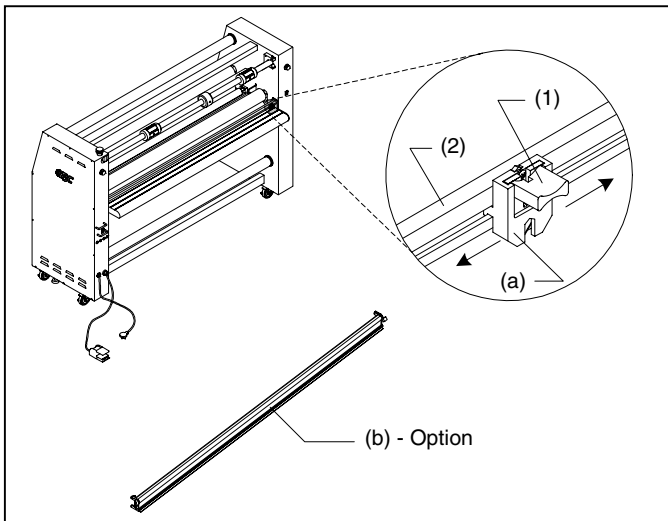

Fig. 19
a. REAR SLITTER: (Figure 19) Used to cut off the laminated web. To use, push down on the blade engage lever (1) and slide across the rear slitter rail (2) to the opposite side.
b. SEPARATOR BAR: (Option) (Figure 19) Required if running Accushield™ material. To install, remove the rear slitter and position the separator bar in its place.